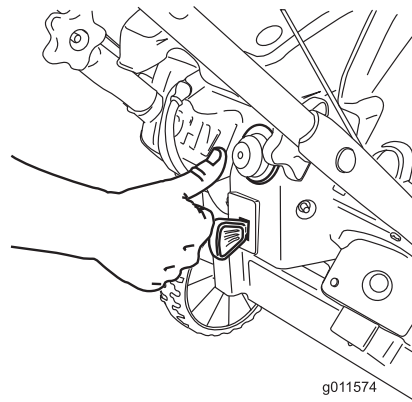

Figure 18
3. Firmly push in the primer 2 times with your thumb, holding the primer in for a second before releasing it each time (Figure 18).